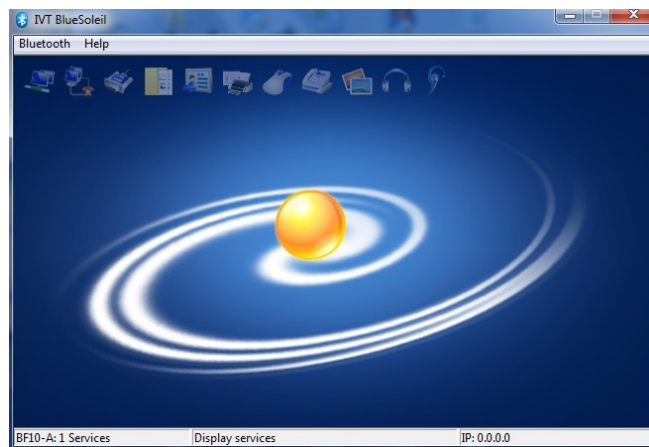

Figure 2-9 Classic Bluetooth interface
- ① Insert the Bluetooth adapter into the USB port of the computer.
- ② Double-click the Bluetooth shortcut to enter the classic Bluetooth interface (Figure 2-9). (If it is not the classic Bluetooth interface, right-click the Bluetooth icon  in the taskbar to choose classic interface)